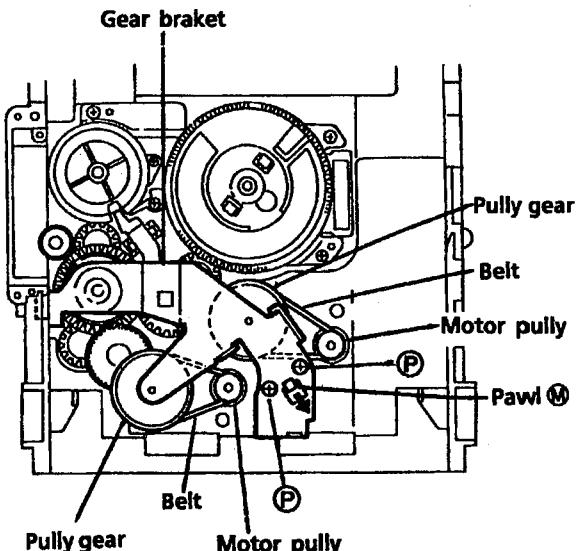

Fig. 37
1. Remove 2 screws  $\textcircled{P}$  securing the gear bracket. (See Fig. 37.)
2. Press the pawl  $\textcircled{M}$  securing the gear bracket to the arrow in the figure to remove the gear bracket. (See Fig. 37.)
4. Remove each belts from the both actuator motor pulleys and the pulley gears. (See Fig.37.)